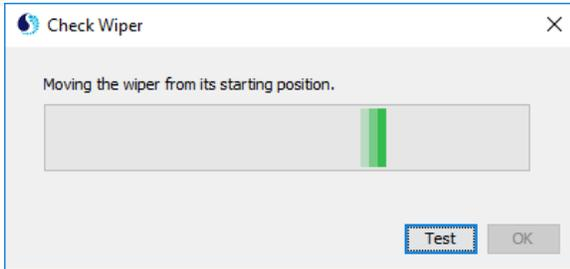

Figure 43. Monitor Wiper Movement
**STEP 4** | Monitor the wiper movement during the function test (Figure 43). Pay careful attention to verify if the wiper is sweeping through the entire window, stopping halfway through, or gets stuck on the edge of the window and does not complete a wipe